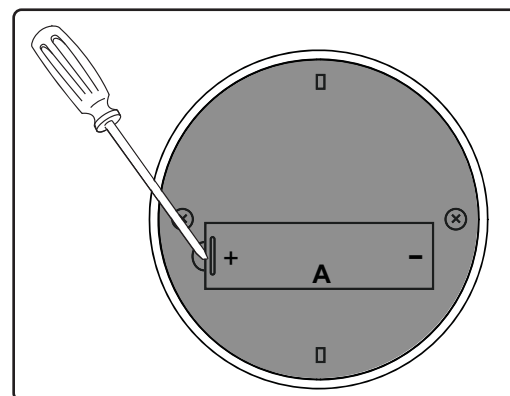

FIG. 5
Using a small flat head screwdriver, raise the cover of the battery door (A) in order to access the battery compartment. FIG. 5.